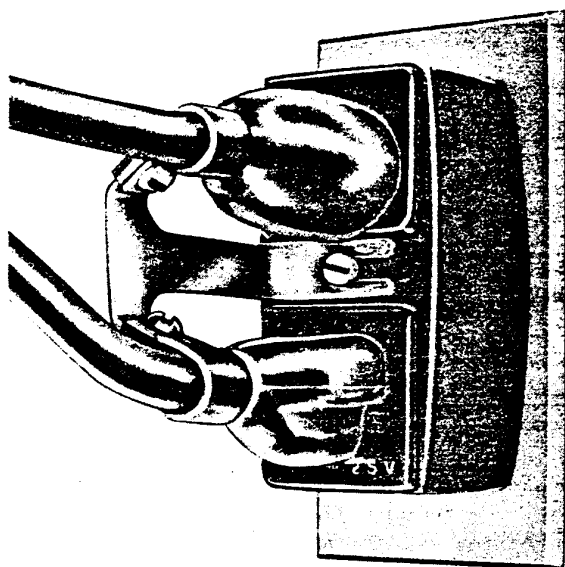

Fig. 13—Twin-Plug Retainer Mounted on a Power Cord Plug Adapter
- **Power-cord plug adapter (Hubbell BL-12433)**—when a 3-conductor ac power cord must be connected to a duplex 2-conductor ac power receptacle (Fig. 13)
- **Power-cord plug retainer assembly (KS-19266)**—to prevent accidental removal of a power-cord plug (Fig. 13).